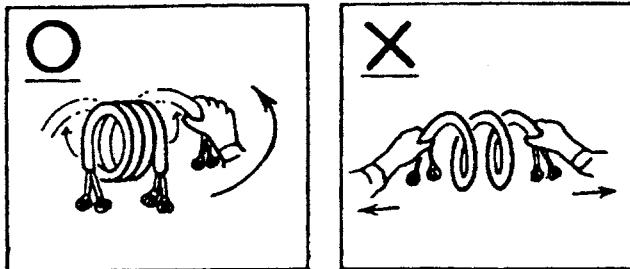

Fig. 100
- (1) The connecting pipe is coiled into its package and must be loosen and straighten before installation.
- (2) When doing this, let it go loose coil by coil naturally and do not pull it by force, or the pipe may be twisted (see Fig. 100)